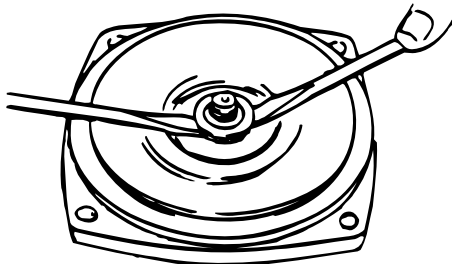

Figure 5 - Remove mechanical seal.
1. Remove the four (4) pump thru bolts that connect the mounting ring to the pump body. Remove the pump body, taking care not to damage the gasket or O-ring.
3. Remove the mechanical seal assembly. The rotary portion of the seal assembly (carbon ring, Buna-N gasket and spring) will easily slide off the end of the shaft. The ceramic portion can be pried out of the rubber seating using two (2) screwdrivers (see Figure 5).